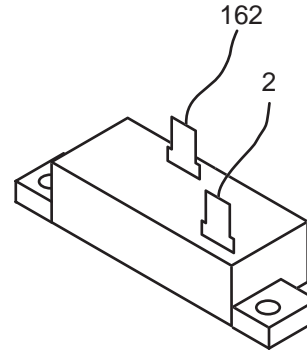

Figure 2. Excitation Circuit Breaker
1. Disconnect Wire 4 from the voltage regulator, 3rd terminal from the top. See Figure 2.
- Disconnect Wire 11 from the voltage regulator and connect one meter test lead to that wire. Disconnect Wire 22 from the voltage regulator and connect the other meter test lead to that wire (both wires are located at the top two terminals of the voltage regulator, see Figure 2).